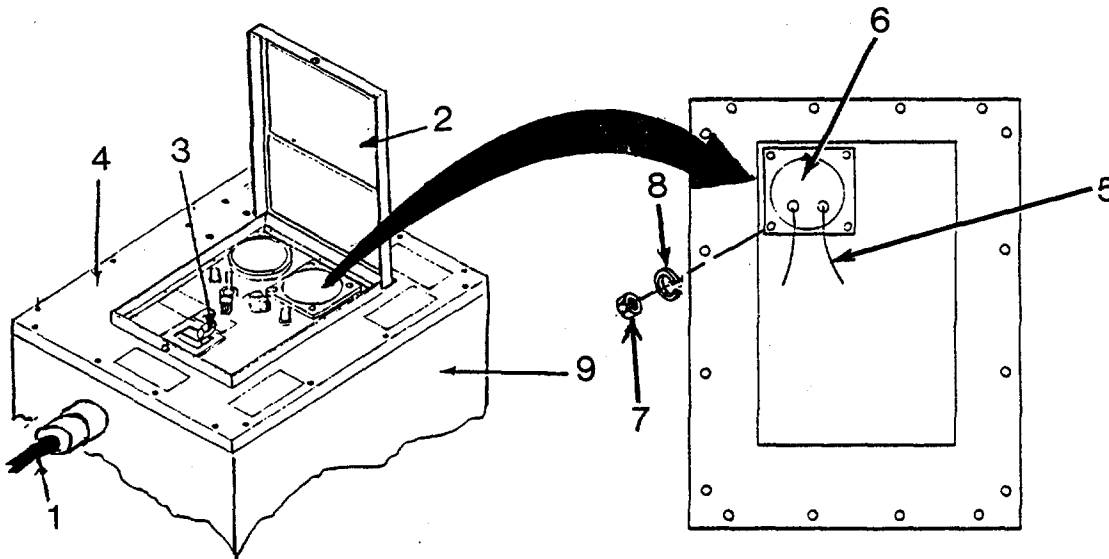

Figure 4-25. Replacing Voltage Meter, Power Distribution Box Assembly
- g. Repair by replacing Voltage Meter, Power Distribution Box Assembly. (See figure 4-25.)
- (1) Request generator operator shut down generator and disconnect main power cable (1).
- (2) Raise control panel cover (2) and request Module C supervisor place circuit breaker (3) in OFF position.
- (3) Remove control panel assembly (4). (See a. above.)
- (4) Tag and disconnect terminal wires (5) from voltage meter (6).
- (5) Remove nuts (7), lockwashers (8), and voltage meter (6).
- (6) Position replacement voltage meter (6) and secure with lockwashers (8) and nuts (7).
- (7) Connect terminal wires (5) to voltage meter (6) and remove tags.
- (8) Secure control panel assembly (4) to power distribution box assembly (9). (See a. above.)
- (9) Request generator operator connect main power cable (1), and turn on generator. Test operation, and request Module C supervisor place circuit breaker (3) in ON position.